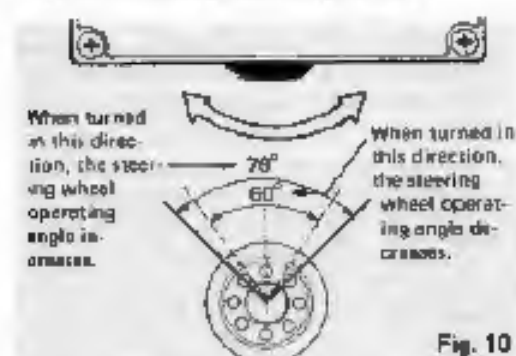

Fig. 10
The operating angle of the ① steering wheel can be adjusted to the desired angle with this adjuster as shown in Fig. 10. The servo deflection angle remains unchanged no matter how the steering wheel angle is set.